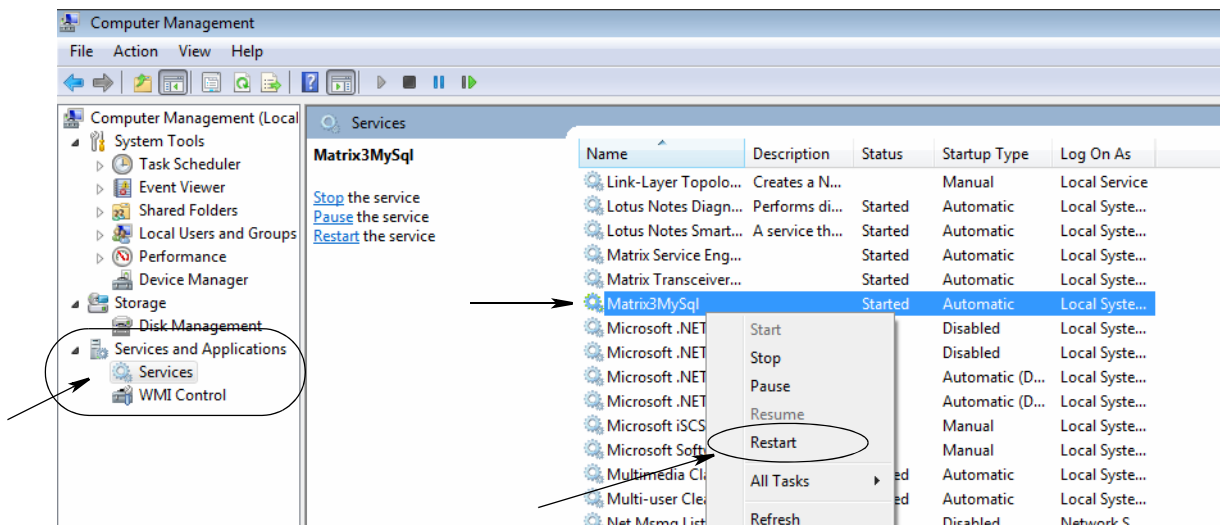

FIG. 210
- On the left hand side, expand Services Applications. Click on Services. In the list to the right locate Matrix3MySql. Right click on it. Select the restart option from the pop up menu (Fig. 210).
- c. On the left hand side, expand Services and Applications. Click on Services. In the list to the right locate Matrix3MySQL. Right click on it. Select the restart option from the pop up menu (FIG. 210).